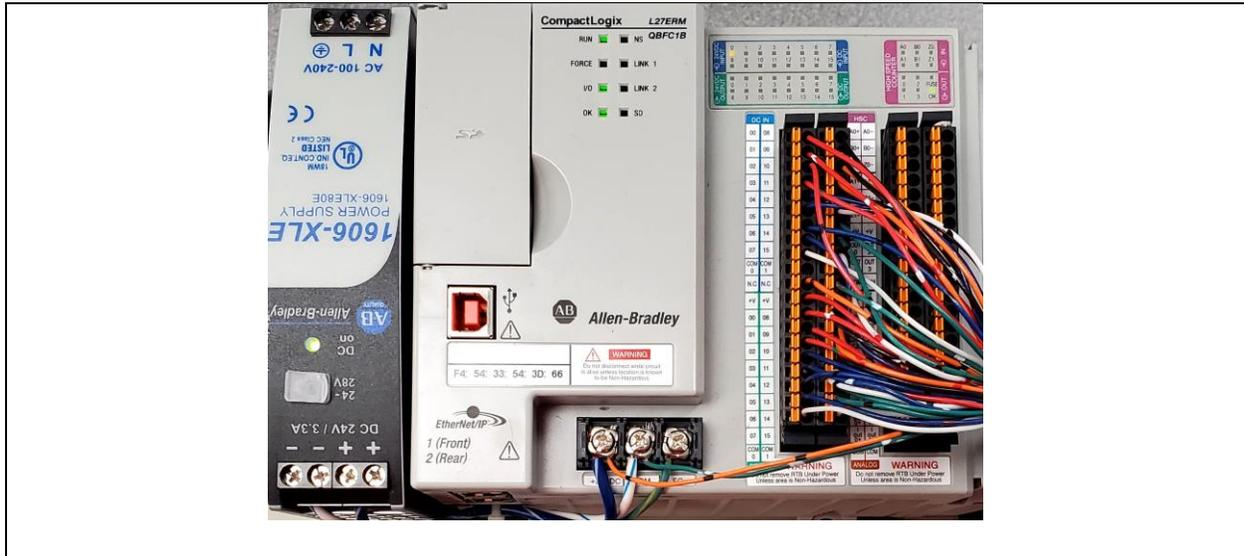

Figure 1. CompactLogix 5370 L2 Controller.
1. Figure 1 shows the CompactLogix 5370 L2 package controller that is used in the Terra PLC lab.